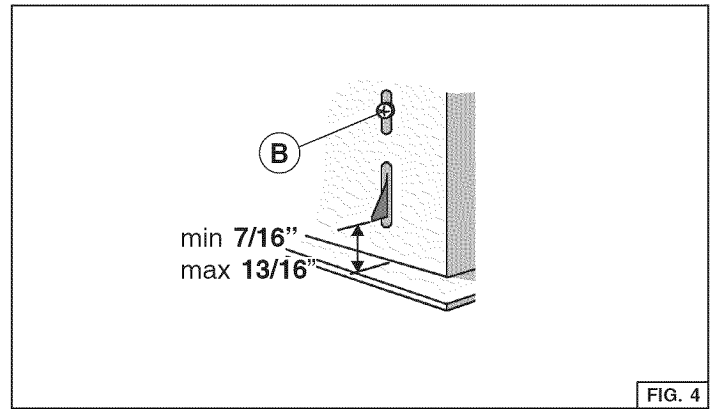

FIG. 4
3. Adjust the position of the clasp side spring by means of the proper "B" screw according to the thickness of the board panel to which it is going to be anchored (Fig. 4).